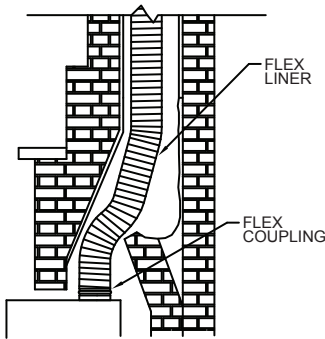

Figure 12
Step 4. After the Flex Liner is pulled through the damper area, attach the Flex Coupling to the end of the Flex with sheet metal screws, then connect it directly to the flue outlet on top of the gas fireplace (**Figure 12**).